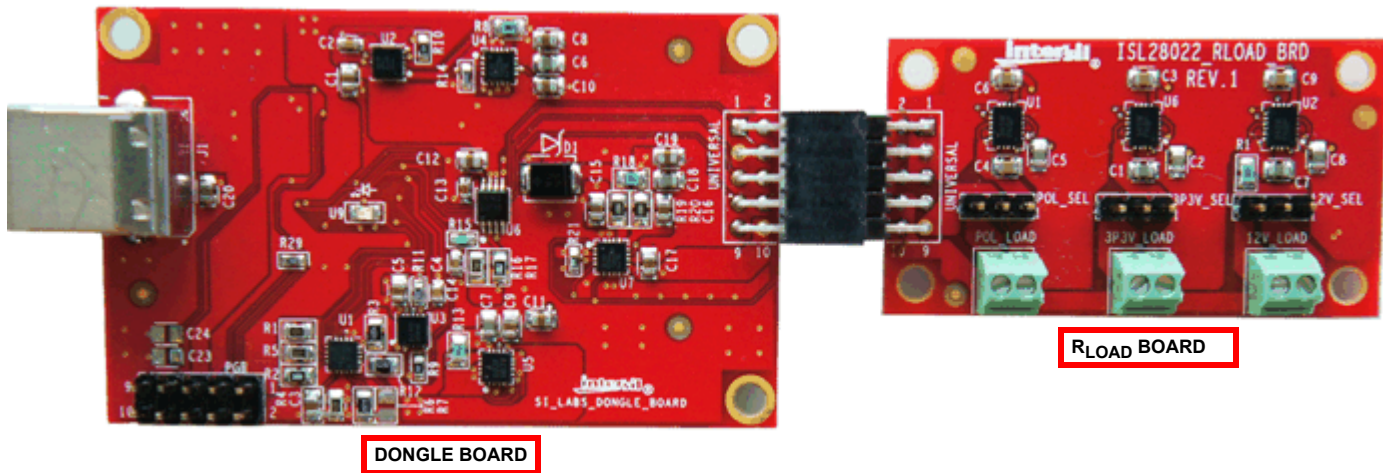

FIGURE 4. ISL28022 DEMONSTRATION SOFTWARE CONFIGURATION
- If a generic ISL28022 board is connected to the dongle board, the front panel of ISL28022 software will be enabled while the Demo drop down menu will be disabled, see Figure 4.
- Connect the R_{LOAD} board to the dongle as shown in Figure 4. Enable communication between the evaluation board and the computer by pressing the “Connect to Device” button at the bottom right of the software window. If the connection is successful, the text on the button will be changed to “Disconnect Device”. Otherwise, the button text will not change. Upon successful connection between the PC and the
- The settings of all channels should be finalized prior to invoking the Save Data feature. The user has the option of uniquely naming each channel and having the channel name be passed to the column name of each respective data file. Changing the field named “Channel Name” in Figure 4 on page 3 will change the name of the column data.